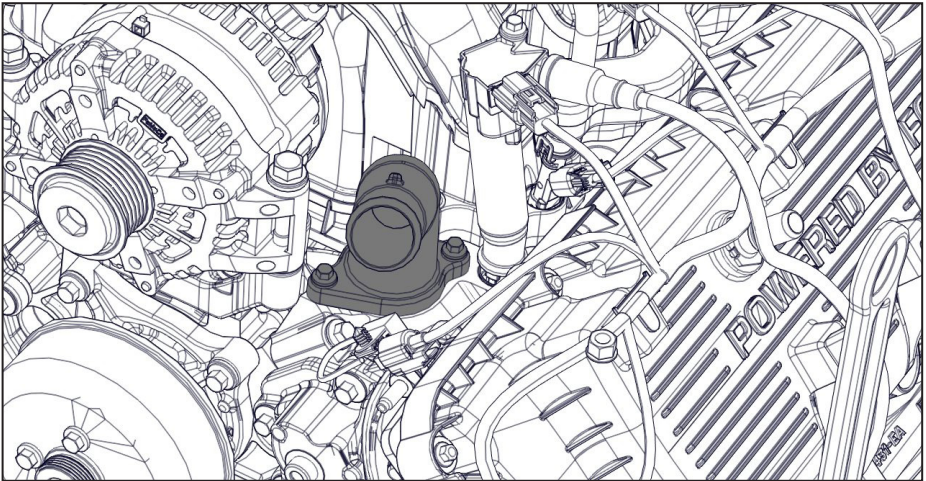

Figure 7 — Remove thermostat housing
- Remove the thermostat housing and set it aside for use later. Leave the rubber seal and thermostat in place (Figure 7).